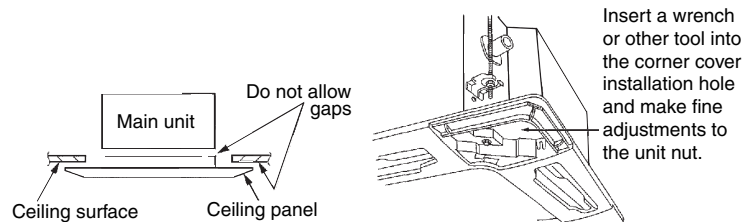

Fig. 3-21
- (4) Check that the panel is attached tightly to the ceiling.
- At this time, make sure that there are no gaps between the unit and the ceiling panel, or between the ceiling panel and the ceiling surface. (Fig. 3-21)
- If there is a gap between the panel and the ceiling, leave the ceiling panel attached and make fine adjustments to the installation height of the unit to eliminate the gap with the ceiling. (Fig. 3-21)